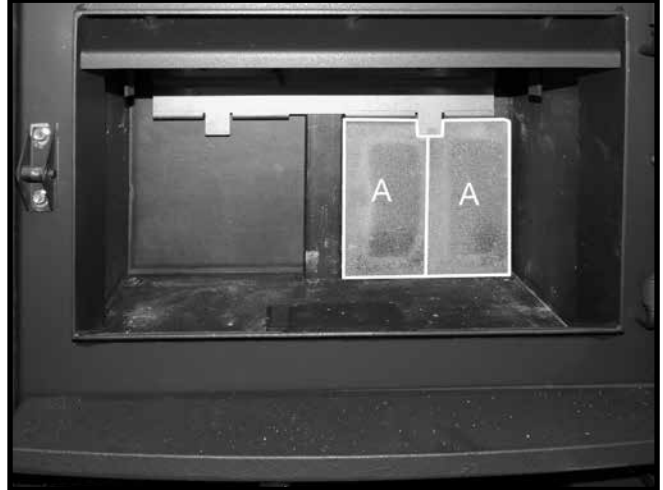

Figure 18. Installing the 2nd of the rear wall bricks
2. Slide a 2nd "A" firebrick underneath the tab on the brick rail Figure 18.